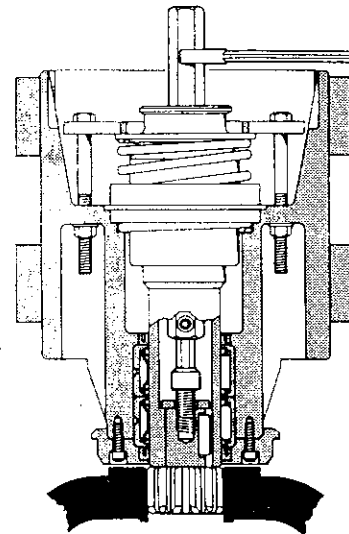

Figure 5.4
4. Remove the nine drive housing adapter screws (30), and lockwashers (36).
5. Remove the drive housing adapter (35), facet drive assembly (31) and facet pinion unit (47), making sure that the drive housing bushing remains in place.
6. Clamp the starter pinion (47) in a vise equipped with copper-lined jaws. Attach facet drive clamping tool No. 22776 and remove pinion screw (29) from the drive unit using Tool No. 20796. See Figure 5.4.